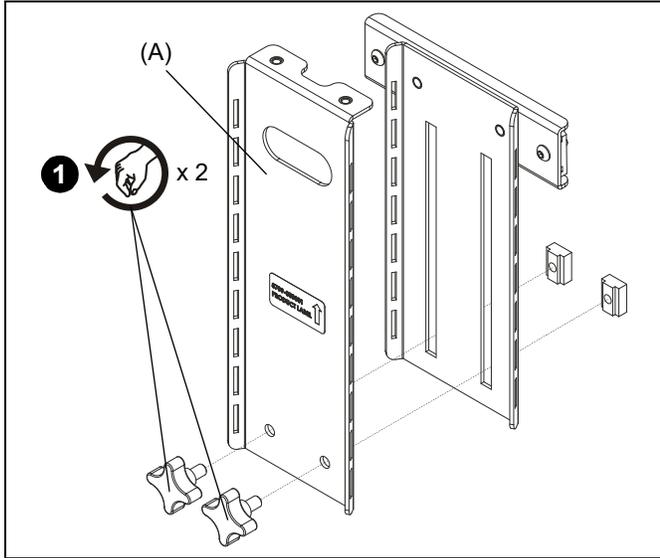

Figure 1
1. (Displays 65" and larger ONLY) Remove height-adjustment knobs from height-adjustable bracket (A). (See Figure 1)